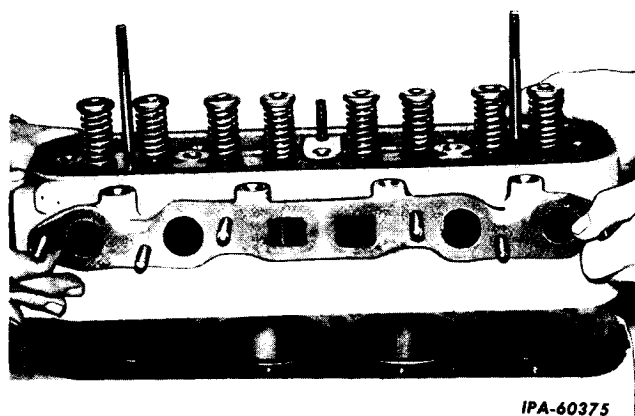

Fig. 15 - Removing the Cylinder Head Assembly.
11. Remove the nuts or bolts securing the cylinder head to the crankcase. Pry the cable clips apart and free the cable harness from the front and rear clips. Lift the cylinder head from position and remove the gasket (Fig. 15).